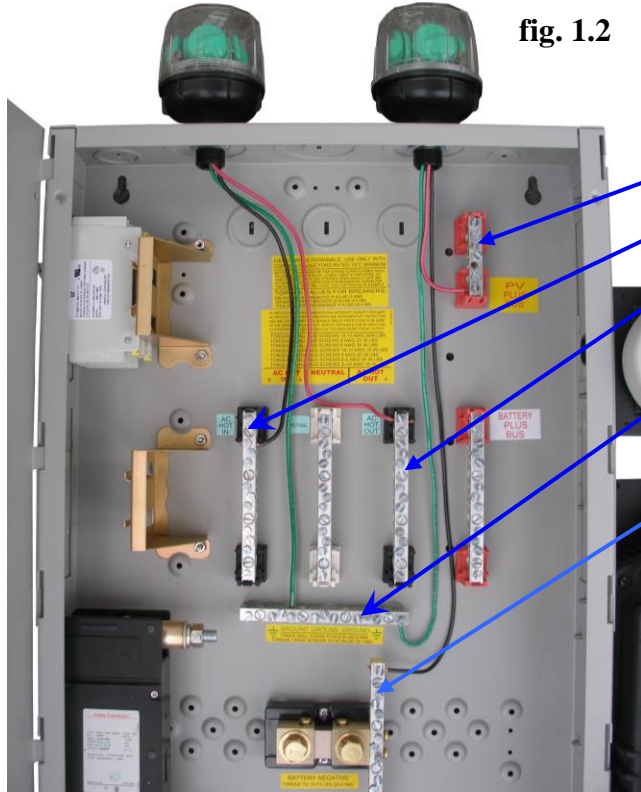
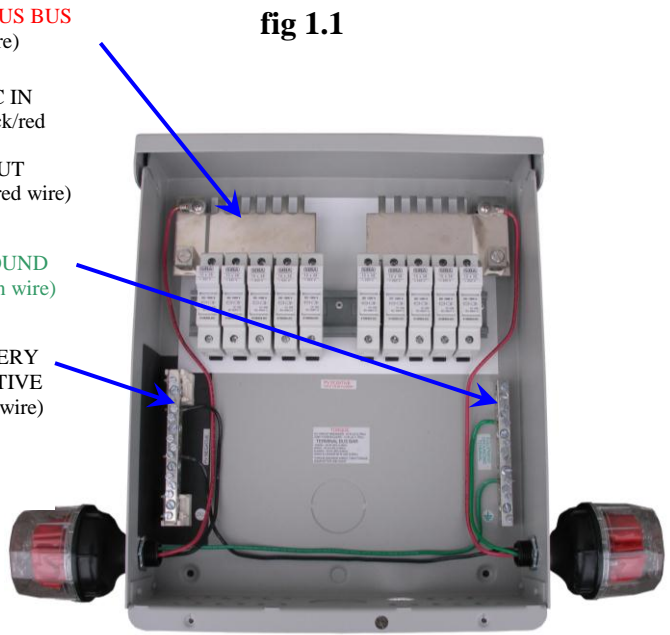

fig. 1.2
fig. 1.1
2. Identify proper location for the SPD. Locate the unit as close as physically possible to the panel being protected and as close to the electrical connection as possible. Avoid excess lead lengths and the need for sharp bends in the wires. **Refer to fig 1.1 and fig 1.2 as an example.**
4. Connect phase conductors. The phase wires are black and red in color. The orientation is not critical to the operation. (AC) With the POWER OFF, connect one wire to AC HOT IN (line) and other wire to AC HOT OUT (load) as shown in **fig. 1.2** (DC) connect the red wire to PV + and the black wire to PV - or battery minus. PV combiners get installed as shown in **figure 1.1**